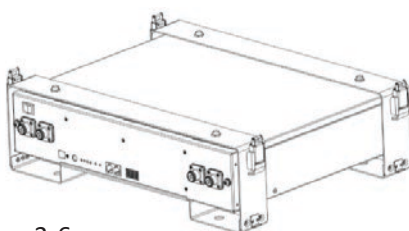

Figure3-6
- After the completion of step 2, the effect is shown in Figure 3-6.